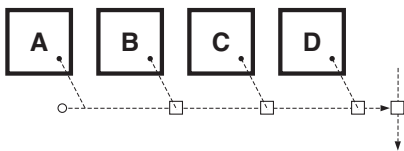

Fig. 18 Plan view of foul drainage
■ Where a typical row of adjacent dwellings is connected to a common drain, up to 9 properties may each be fitted with **153.3.4 Automatic Air Admittance Valve** (see page 13) rather than normal soil and vent pipe (SVP) provided that the property at the head of the drain is open vented with a SVP (Fig. 18)